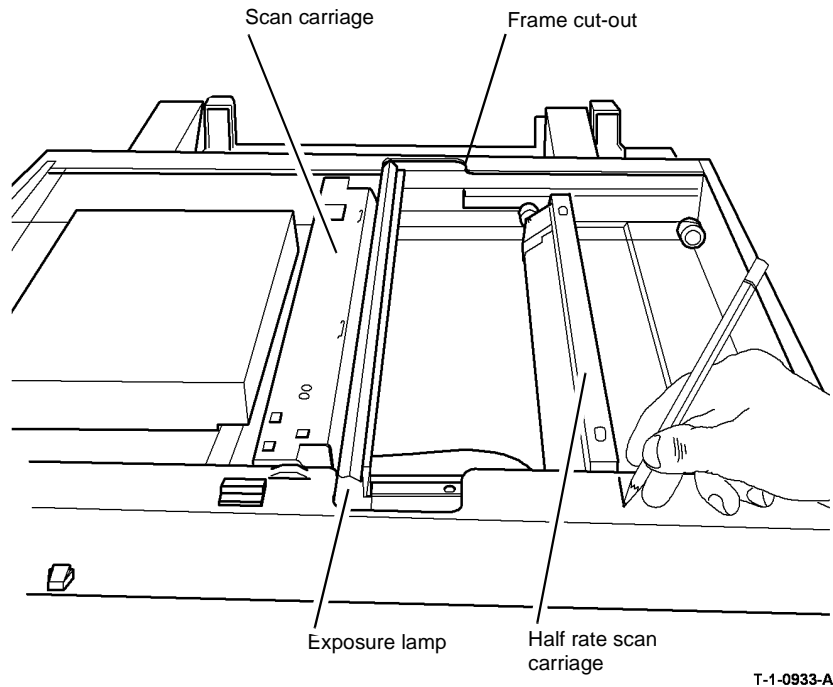

Figure 2 Carriage start position
4. Move the scan carriage to the position shown in Figure 2, with the exposure lamp at the left end of the frame cut-outs, then mark the position of the half rate scan carriage. The anchor balls should be in the position shown in Figure 1.
2. If necessary, rotate the capstan to bring the anchor ball recess to the top and slightly to the right. Check that the half rate scan carriage is in the start position, as in Figure 2.